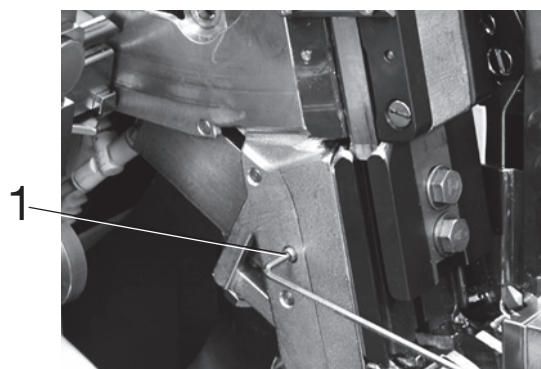

Fig. 7-29 1 Adjusting screw
- Loosen the adjusting screw (1, Fig. 7-29).